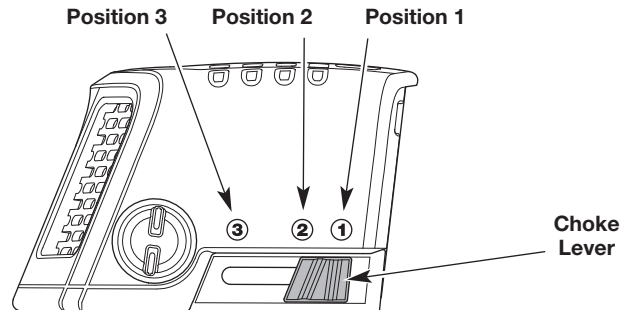

Fig. 9
4. Move the choke lever to **Position 1** (Fig. 9).
7. Continue to squeeze the throttle control. Move the choke lever to **Position 2** (Fig. 9).
10. Continue to squeeze the throttle control. Move the choke lever to **Position 3** (Fig. 9) and continue warming the engine for an additional 60 seconds. The unit may be used during this time.